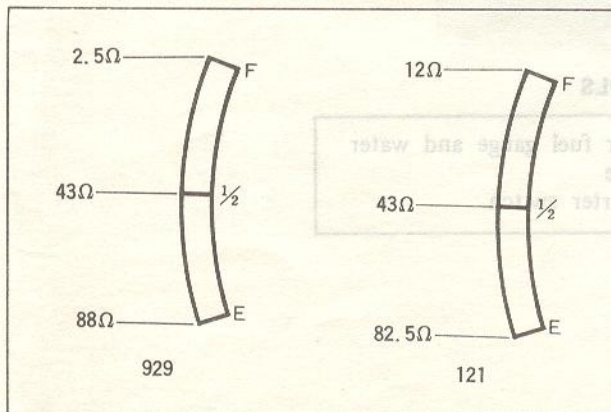

Fig. 5-67 Resistance of fuel gauge
2. Set the checker button in the specifications as shown in Fig. 5-67.